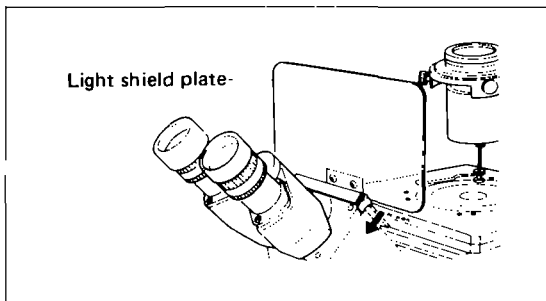

Fig. 8
6. Attaching the light shield plate (Fig. 8)
Attach the light shield plate onto the bottom of the binocular eyepiece tube as shown in Fig. 8.